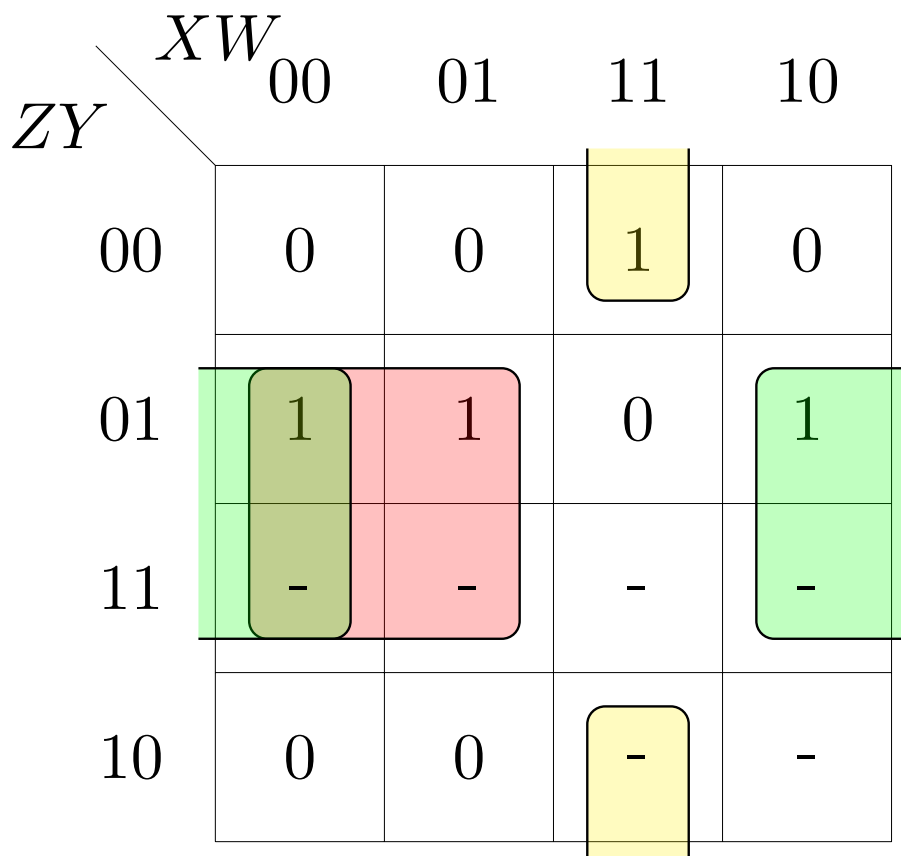

Figure 4.7: K-map for  $C$  with don't cares
4. The revised K-map for C is available in Fig 4.7 Show that